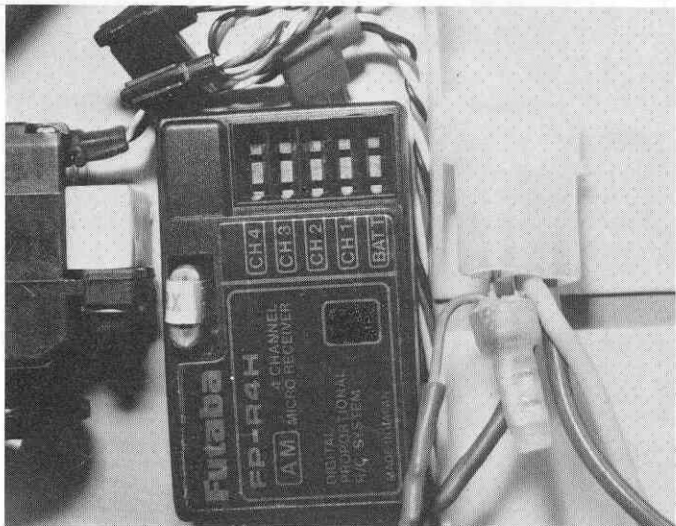

Fig. 181
□ **Fig. 181** There should be enough room to mount the receiver between the servo and battery trays, as shown. Put about 4 layers of servo tape on the bottom of the receiver and stick it to the chassis. If you have a bigger servo or receiver, stand the receiver on its side and mount it.